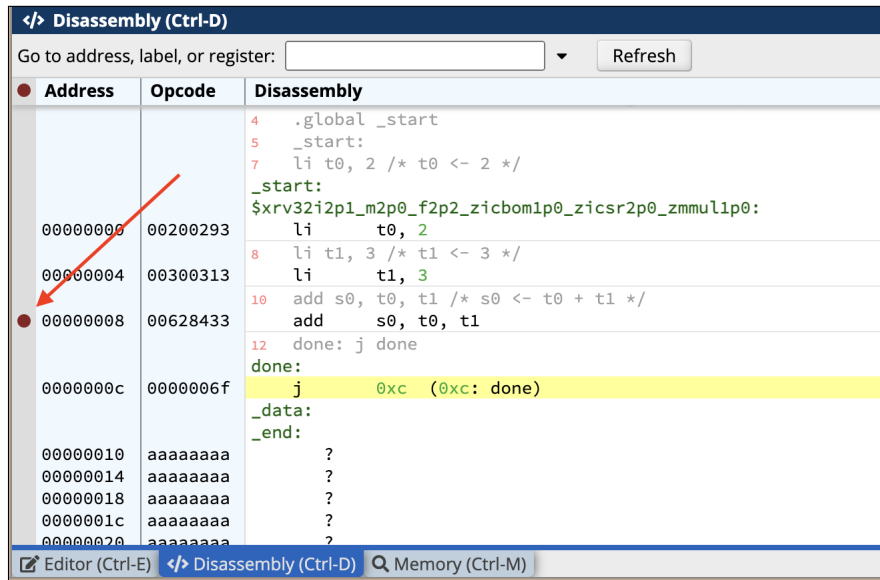

Figure 8: Setting a breakpoint.
10. Now set a breakpoint at address `0x00000008` by clicking on the gray bar to the left of this address, as illustrated in Figure 8. Select the `Continue` command to run the program again and observe the how execution stops at that location. Use `Continue` to cause the program to continue from that point. You can use this facility to monitor the progress of loops. You may already be familiar with such breakpoints from other debugging tools.